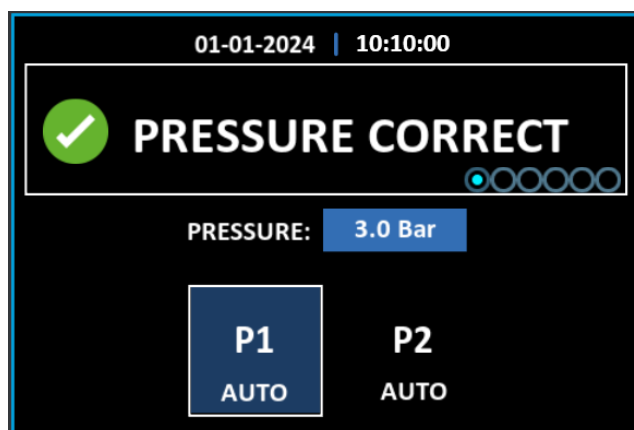

Fig 3.18: Pump 1 Edit Mode
- On the 'MAIN SCREEN', press and hold the 'DOWN'  arrow button for 3 seconds to activate the cursor, highlighting Pump 1 (P1) with a square box (see Fig 3.18).